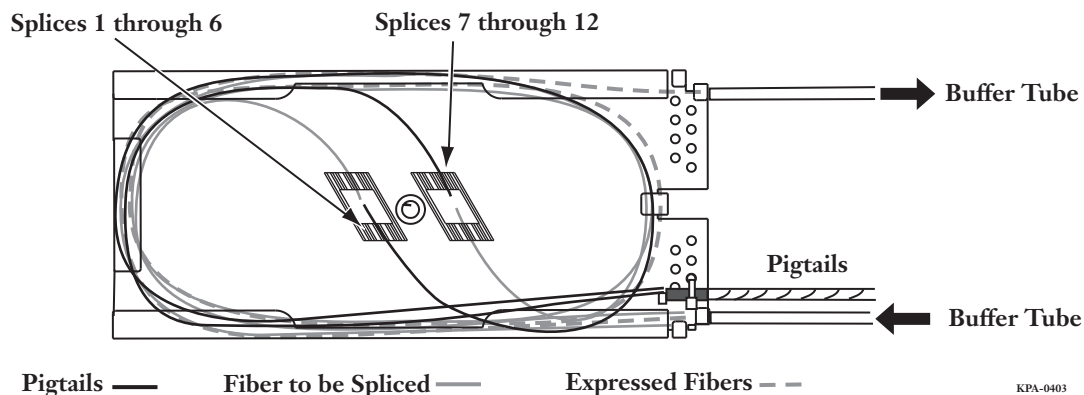

Figure 24
Before splicing fibers, determine the fiber routing configuration you will use in your splicing application. Buffer tubes may enter the splice tray and have all fibers in the buffer tube spliced at that time or stored in the tray for splicing later. It is also possible to splice one fiber from a buffer tube and express the remaining fibers out of the splice tray. Figure 24 illustrates the recommended routing inside the tray for the fibers being spliced and the express routing of the unused fibers.
- Step 4:** Route two loops of buffer tube around the inside perimeter of the splice tray as shown in Figure 24 and exit the tray. Mark the buffer tube where it exits the tray.
- Step 9:** For the first six splices, route one loop of distribution fiber around the inside perimeter of the splice tray and enter the first splice organizer ((Figure 24). Route any additional fibers one and a half times around the tray to enter the opposite side of the second splice organizer (Figure 24).
- Step 1:** Route two loops of pigtail around the inside perimeter of the splice tray (Figure 24).